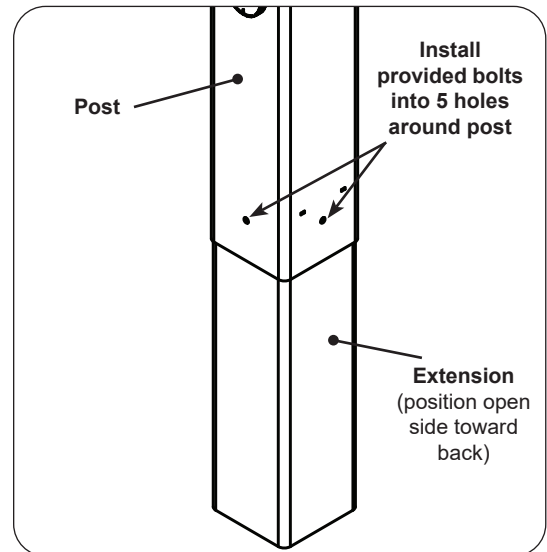

Fig. 27-1 Install extension to post
1. Attach the extension to the bottom of the grill post so that the open portion is toward the back of the grill and the five holes in the extension line up with the five (5) weld-nuts in the post (see Fig. 27-1).